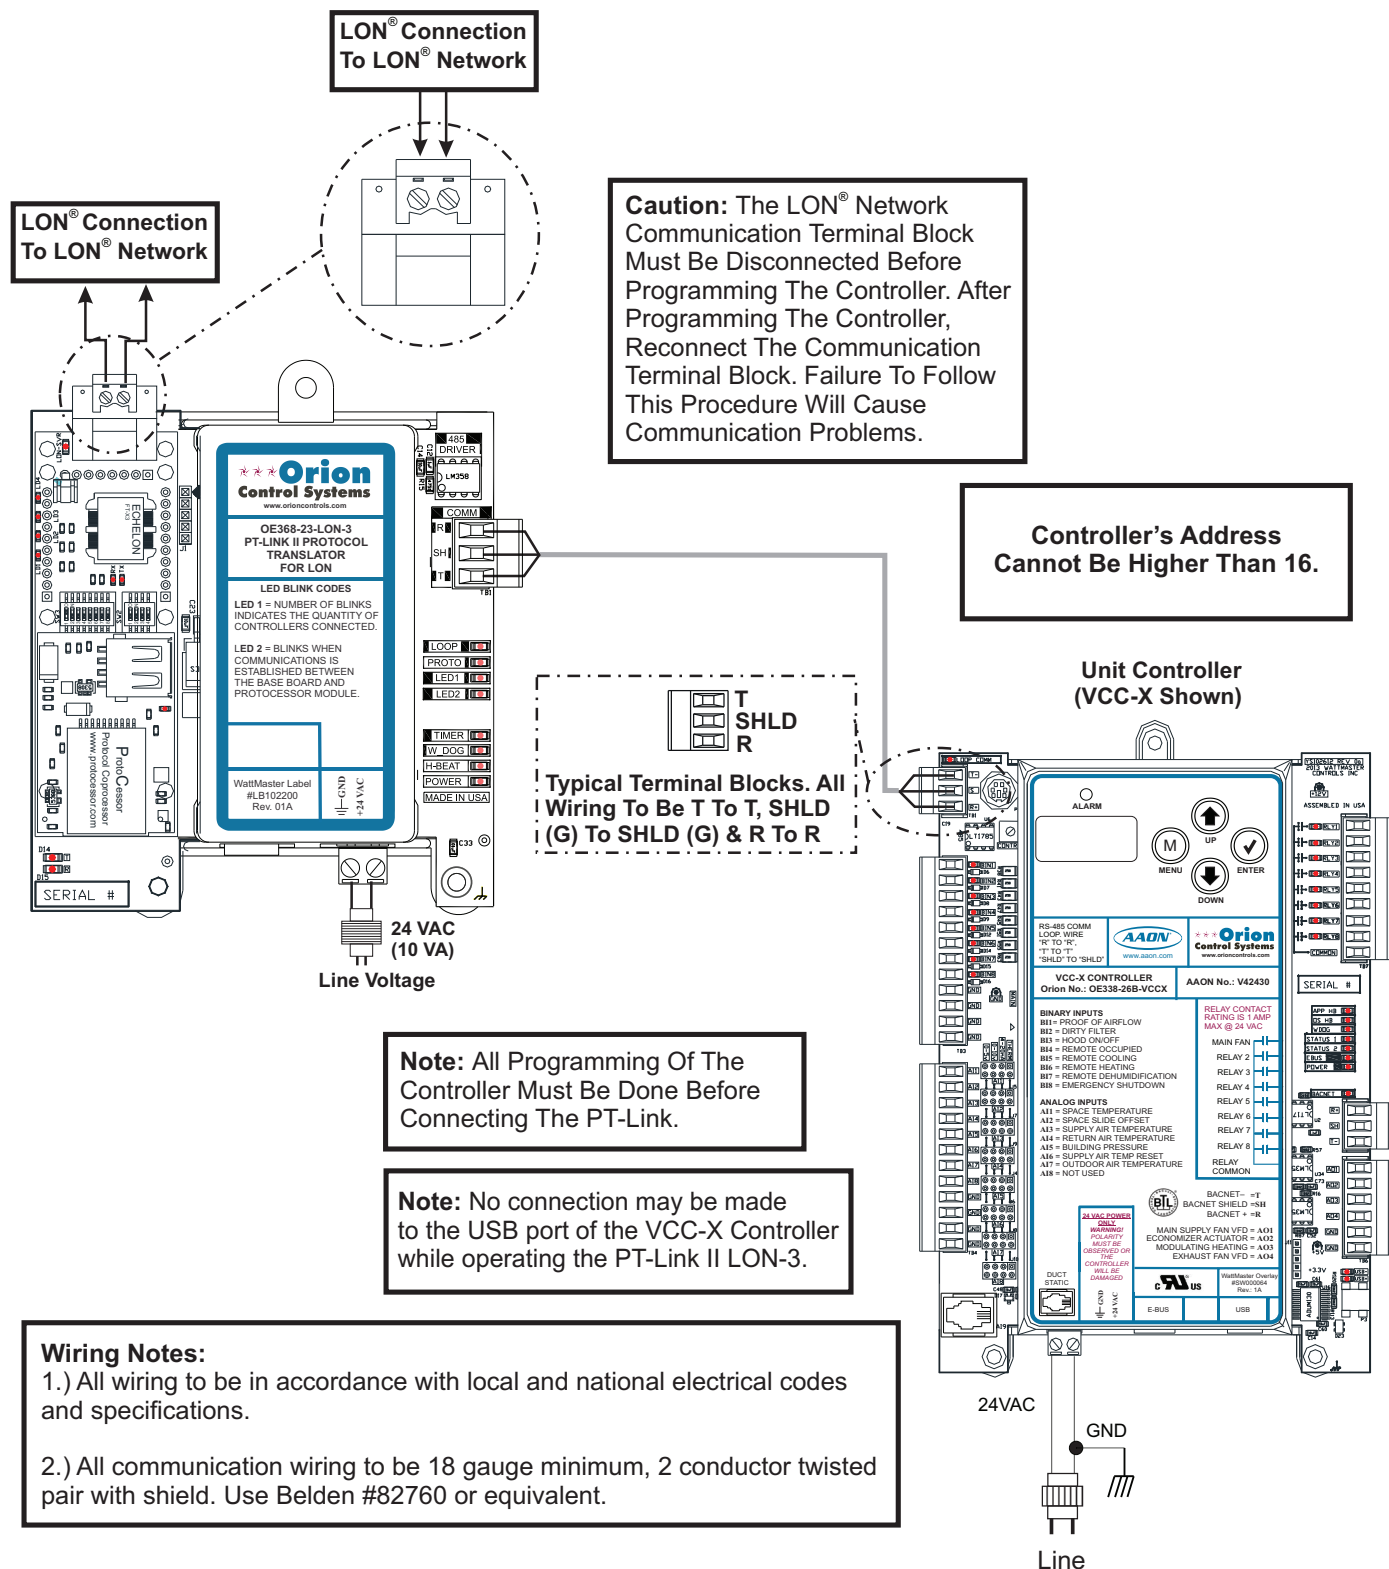

Figure 2: PT-Link II LON-3® Interface Wiring to Unit Controller (VCC-X Shown)
2. Connect your PT-Link II LON-3 to the Unit Controller on your system (only one) and connect your PT-Link II to the LON Network (**Figure 2, page 6**). Note that if connected to a VCC-X Controller, nothing should be connected to the